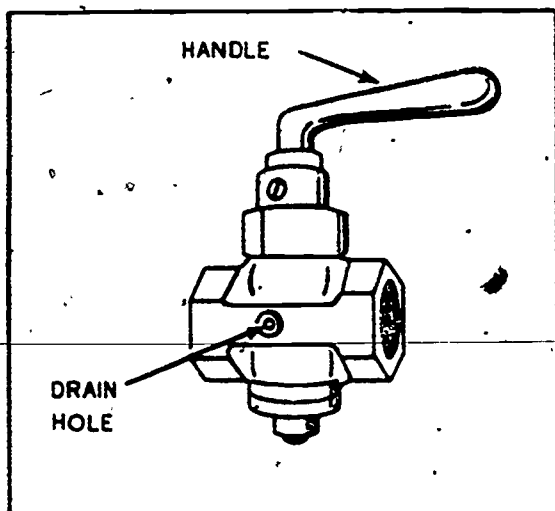

Figure 1-20. Stop and waste valve.
**Stop and waste valve.** In addition to the three valves mentioned above, a building supply line should be equipped with a stop and waste valve, shown in figure 1-20, which may be used for draining purposes. This valve must be located at a point in the grade that will drain the building pipes by gravity when the valve is turned to the off or drain position. The stop and waste valve is designed with a drilled passage through the side of the valve body that allows the water to escape. When the valve is turned to the off position, the water to the pressure or inlet side of the valve is shut off and the water on the outlet or building side of the valve is drained by gravity through the drilled passage in the valve body. The stop and waste valve can be installed either inside or outside the building. When the valve is installed inside the building, such as in a basement, it may be necessary to install a drain pipe from the drilled opening in the valve to carry the waste water to a floor drain or sump.